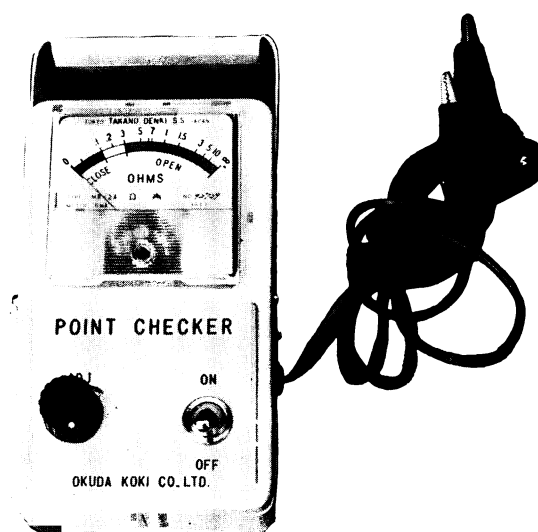

Fig. 3-35 Point checker meters small electrical resistance
**Points Checker.** This meter measures resistance with a single scale that reads from 0 to 10 ohms; the first 2 ohms are shown in tenths. Very small resistances can be read in ignition wires, through ignition points, and in other circuits where small differences are critical (Fig. 3-35).